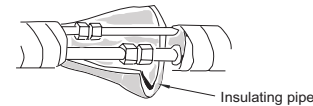

Fig.7
- (4) Wrap the indoor pipe and joint of connection pipe with insulating pipe, and then wrap it with tape. (As shown in Fig. 7)
- (5) If a 18k indoor unit is to be connected with outdoor unit, a transitional pipe joint (provided) should be added at the pipe joint of indoor unit evaporator assy as the pipe joint of evaporator assy adopts pipe diameter of  $\Phi 5/8$ . Please refer to step 1~4 during installation.